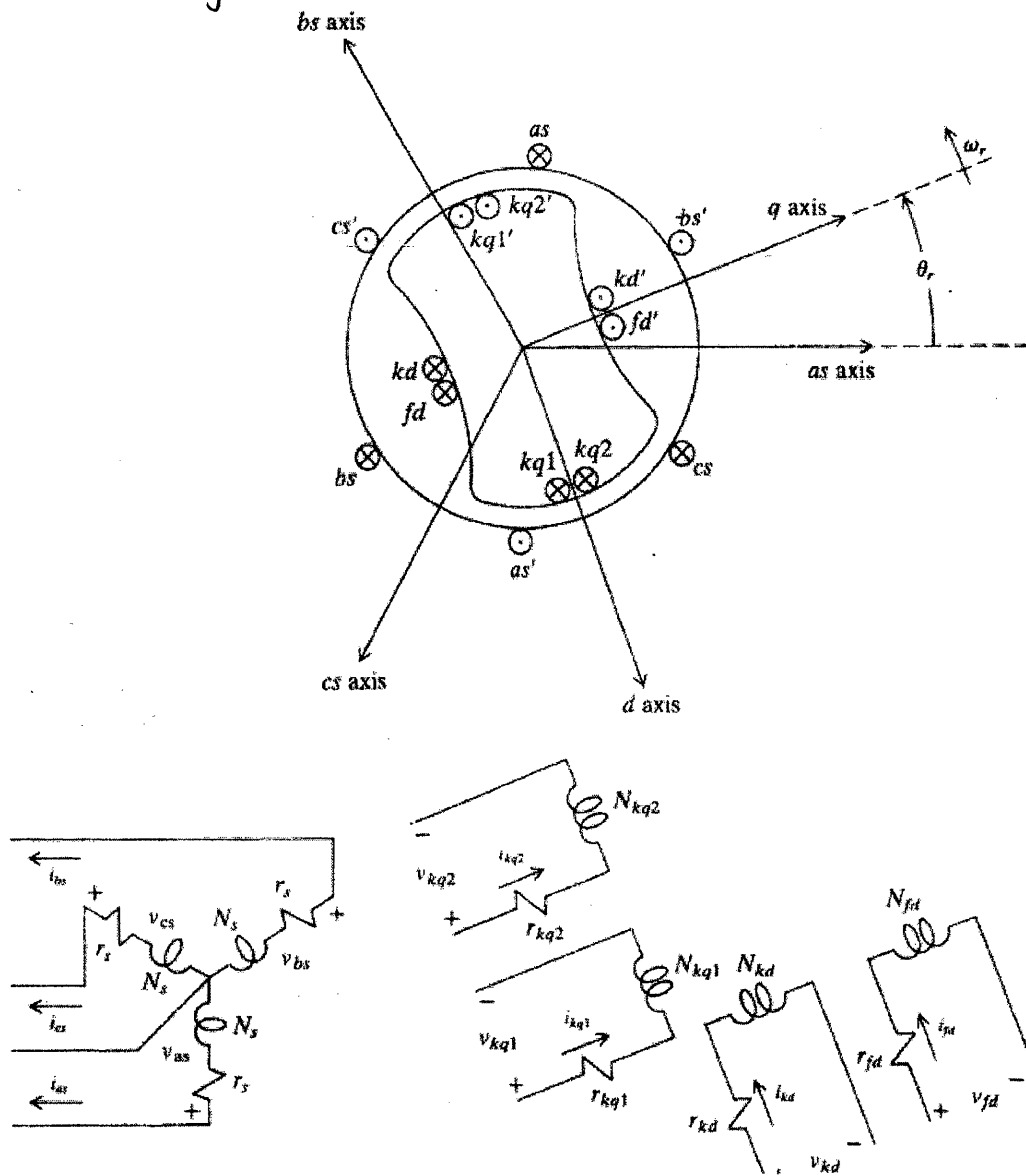

Fig.4
- Q.5) Derive the dynamic model of Induction Machine in arbitrary reference frame in terms of flux linkages as variables. Also draw the equivalent circuit. (20)
- Q.6) For the arrangement shown in Fig.4, derive the expression for voltage equations expressed in terms of machine variables referred to the stator windings. (14)